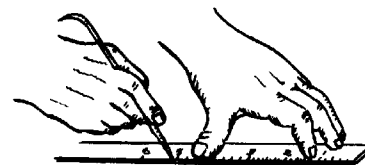

FIG. 2 SCRIBING A LINE
- Place the steel rule flat on the work in position for scribing. Grasp the scriber in the right hand as a pencil is gripped. (Fig.2).
- Hold the rule firmly by exerting pressure with the tips of the fingers of the left hand (Fig.2).